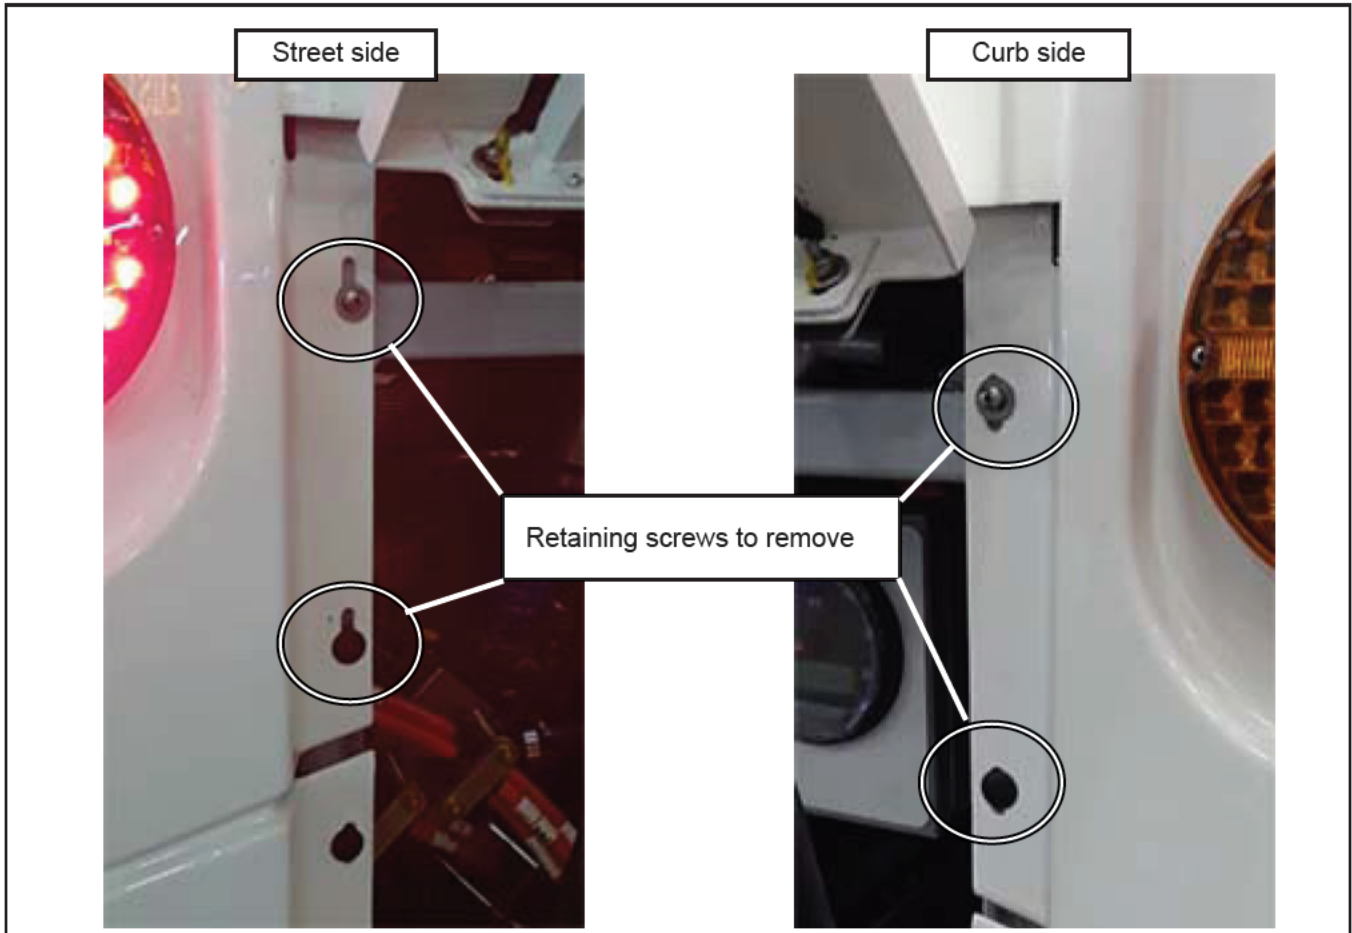

Figure 2 - Rear Screws to Remove
- 1.2. Remove the rear retaining screws and remove the curb side stop and flasher light corner panel. Retain the hardware. See Figure 2.
- 1.3. Remove the rear retaining screws and remove the street side stop and flasher light corner panel. Retain the hardware. See Figure 2.